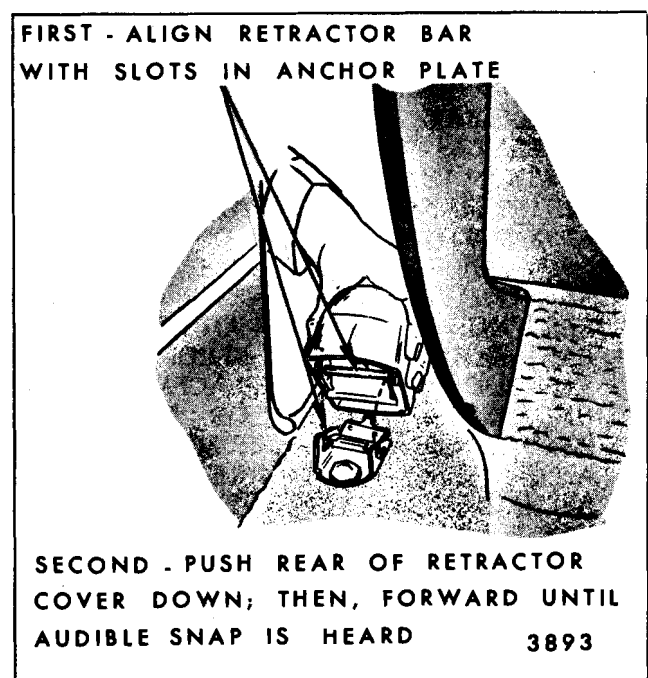

Fig. 14-95-Deluxe Front Lap Belt Self-Locking Retractor - Installation
2. Position retractor and cover assembly over anchor plate assembly so that bar in retractor is aligned with slots in anchor plate. Push rear of retractor assembly down and then forward to lock retractor to anchor plate (see Fig. 14-95).